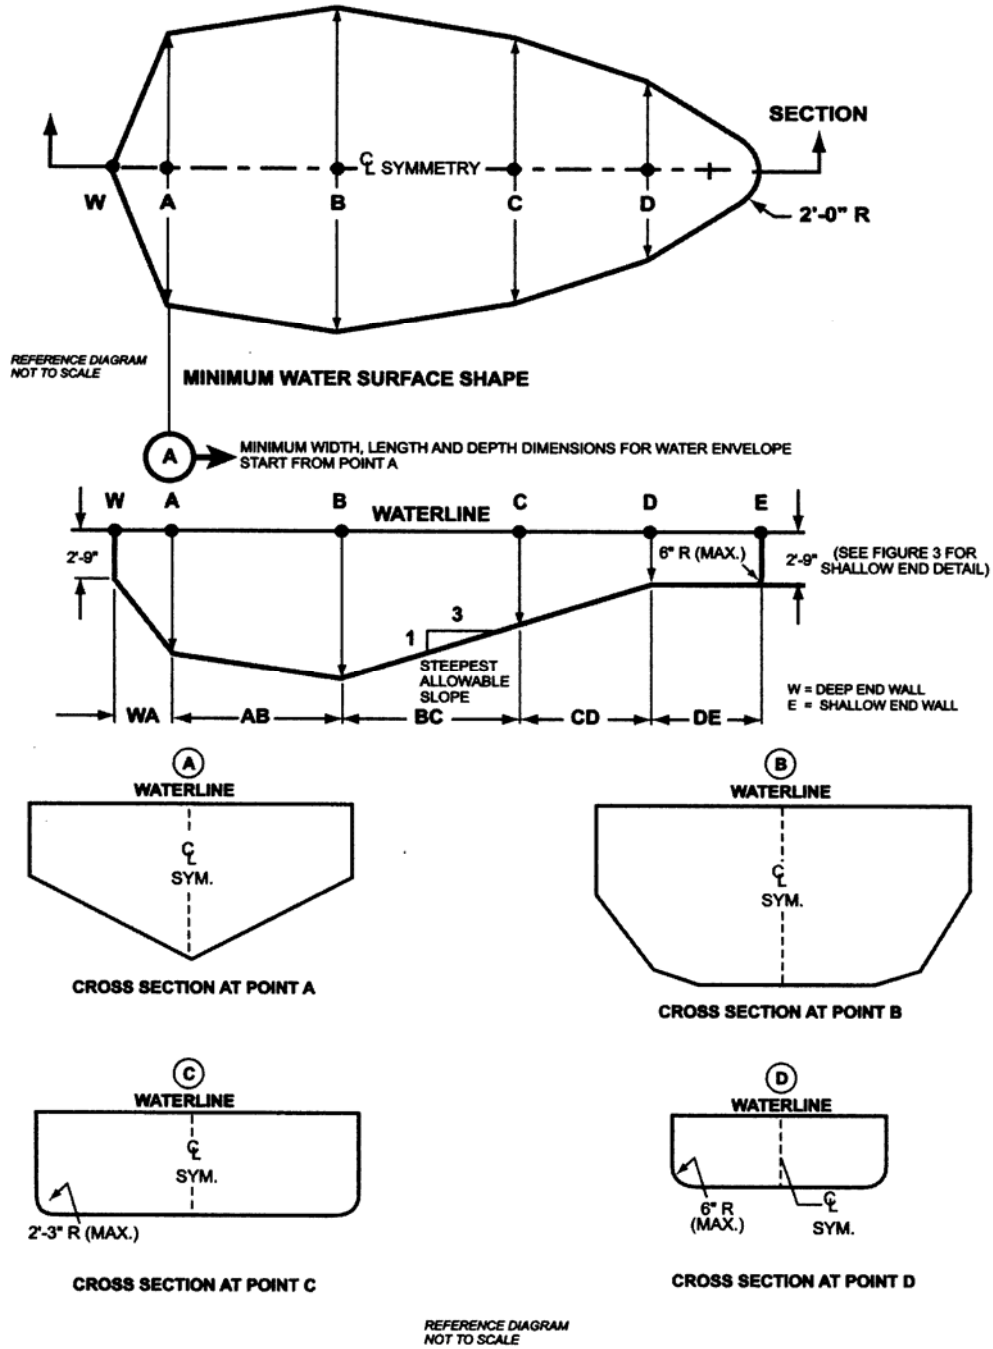

Figure 3- Minimum water envelope
5.3.3 The walls of Type I pool, when defining the minimum diving water envelope, shall be plumb or outside of Type 1 water geometry. (See figure 3, table 1.)
- Figure 3 drawings are not to scale.(For pool types, see Glossary.)